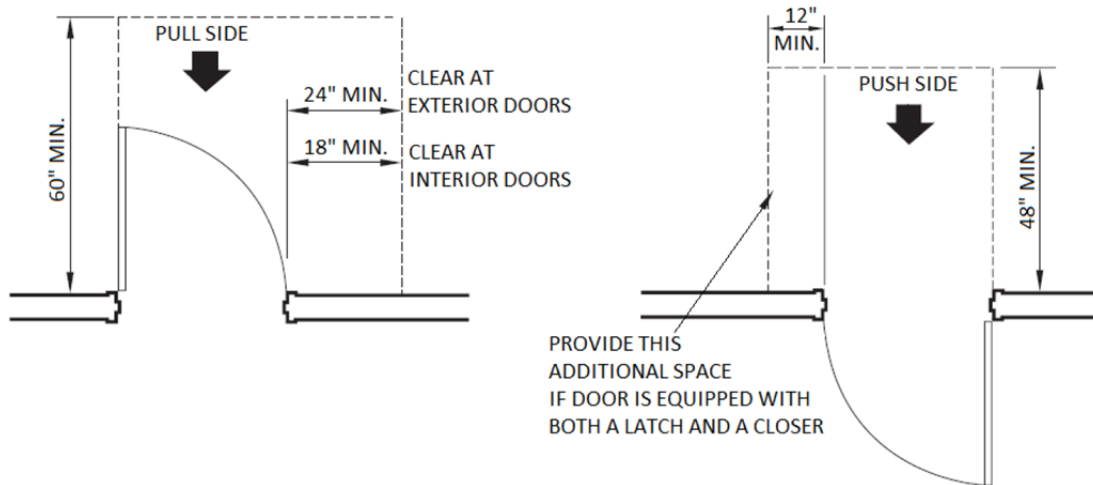

FIGURE 11A-8A
8. Dimension clear and level landings per CBC Figure 11A-8B for each hinged door allowing hinge-side approach: